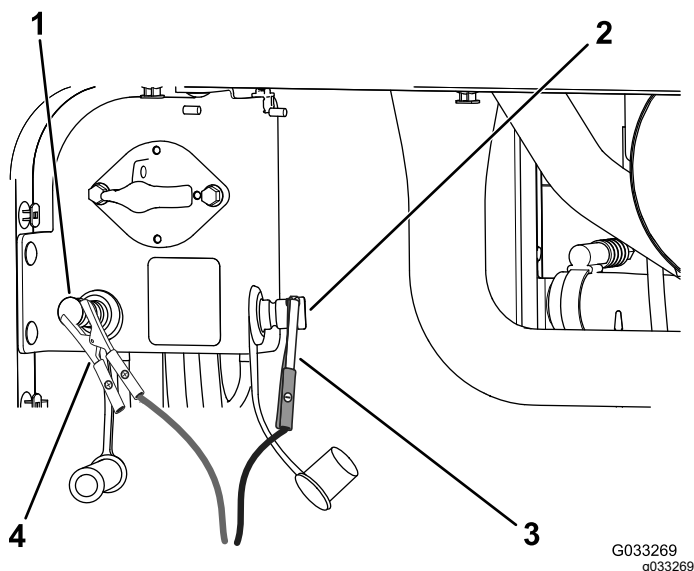

Figure 77
4. Connect the positive lead of the battery charger to the positive jump post (Figure 77).
5. Connect the negative lead of the battery charger to the negative jump post (Figure 77).
7. When the batteries are fully charged, unplug the charger from the electrical source, then disconnect the charger leads from the jump posts (Figure 77).